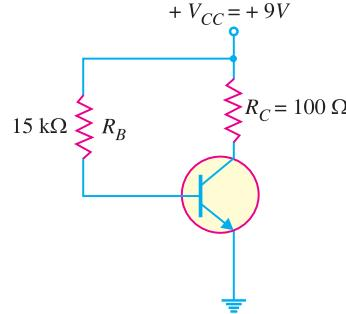

Fig. 9.54
12. The base bias circuit in Fig. 9.54 is subjected to a temperature variation from 0°C to 70°C. The β decreases by 50% at 0°C and increases by 75% at 70°C from its normal value of 110 at 25°C. What are the changes in I_C and V_{CE} over the temperature range of 0°C to 70°C ? [I_C = 59.6 mA ; V_{CE} = 5.96V]